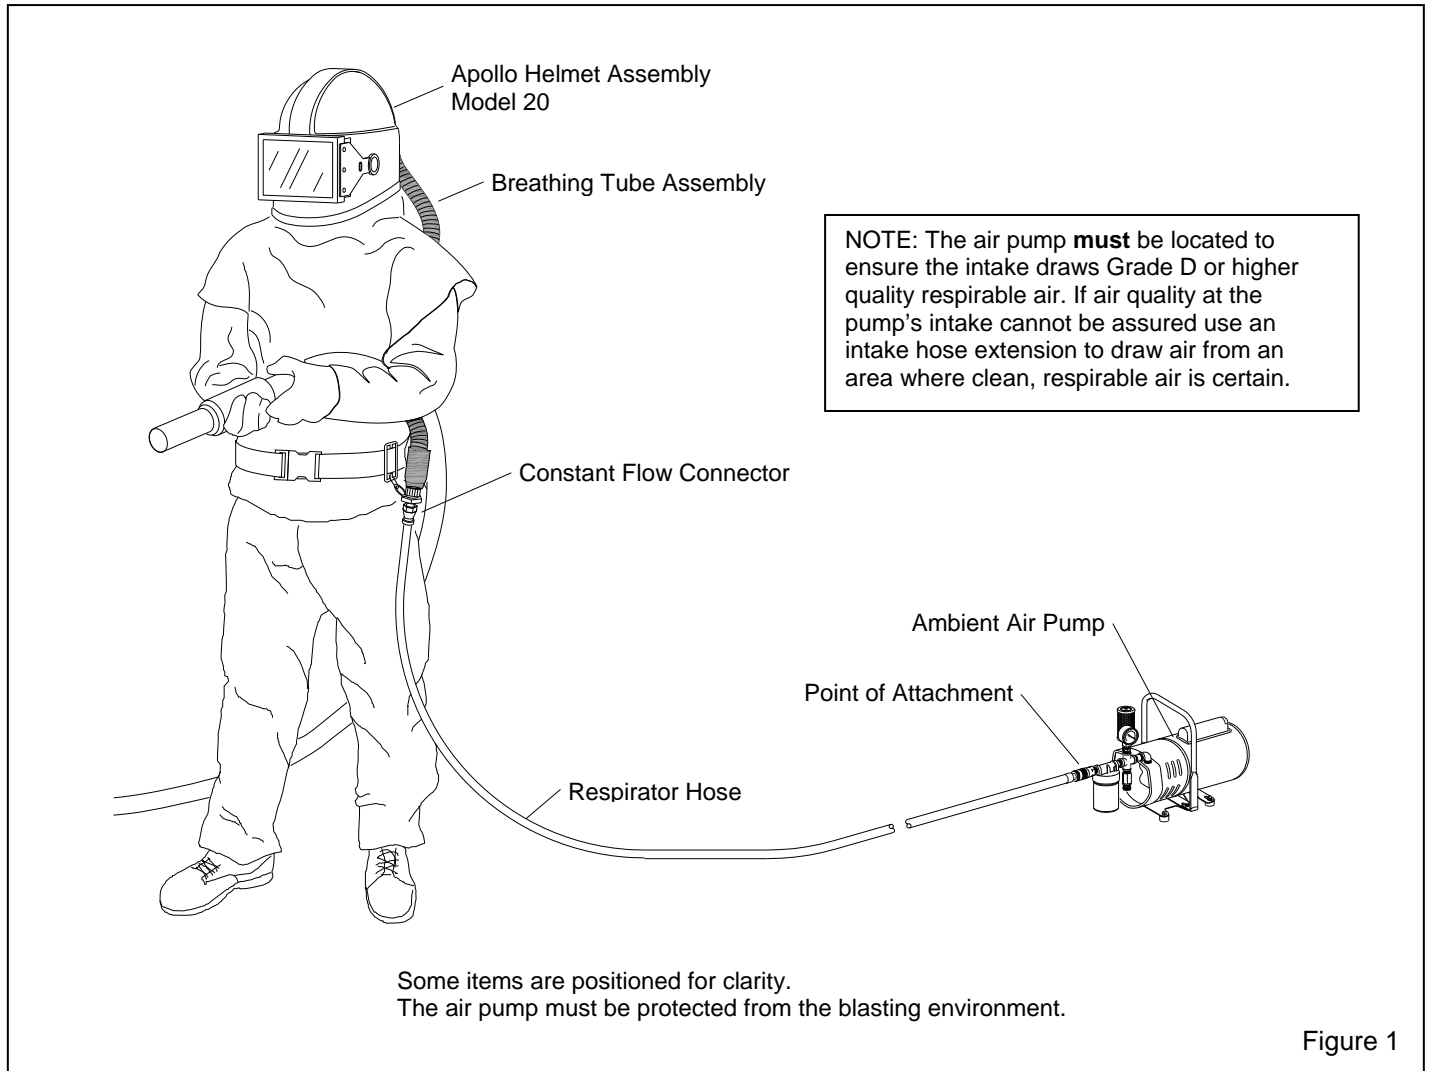

Figure 1
1.1.2 Read this entire manual and all accessory manuals before setting-up and using the respirator. Manuals for Clemco low pressure, ambient air pumps that may be used with Apollo LP Respirators are available on our web site, www.clemcoindustries.com, Refer to Figure 1 for a typical set-up.